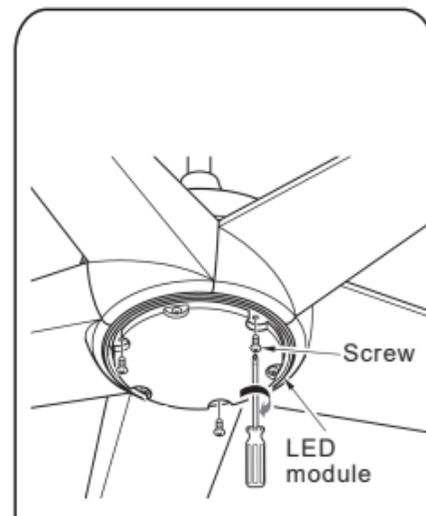

Fig.24
Step 5: Tighten the LED assembly to light kit plate with 3 screws.(Fig. 24)